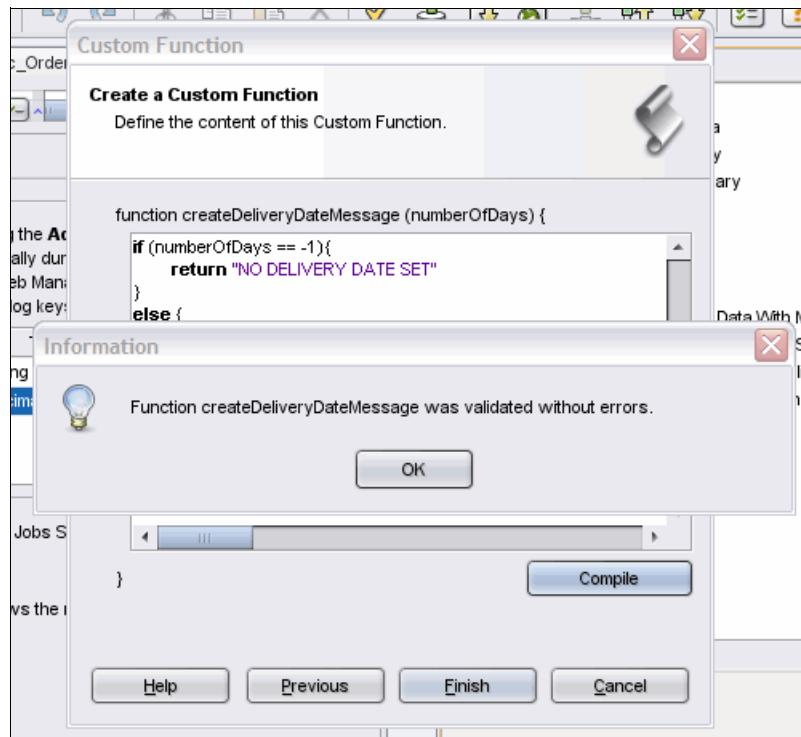

Figure 12-34 Compiling the custom function
- Click **Compile**. When the success message displays, as shown in Figure 12-34. Click **OK**. Click **Finish**.